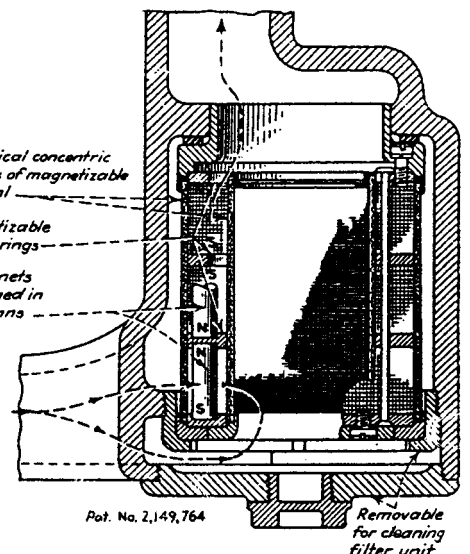

Fig. 12 A filter.
Fig. 12 Soft steel bars are used to complete the magnetic circuit, allowing maximum flux density through the air gap. The arrangement can use single magnets (A), (B), or double magnets (C), (D), (E), or a single magnet with a shunt (F).
**Fig. 12** For electric ranges, this thermostat has the same bellows unit as the gas-type control. But, instead of a throttling action, the thermostat opens and closes the electrical contacts with a snap action. To obtain sufficient force for the snap action, the control requires a temperature difference between *on* and *off* positions. For a control range from room temperature to 550°F., the differential in this instrument is  $\pm 10^\circ\text{F}$ . With a smaller control range, the differential is proportionately less. The snap-action switch is made of beryllium copper, giving it high strength, better snap action, and longer life than is obtainable with phosphor bronze. Because of its corrosion resistance, the beryllium-copper blade requires no protective finish.